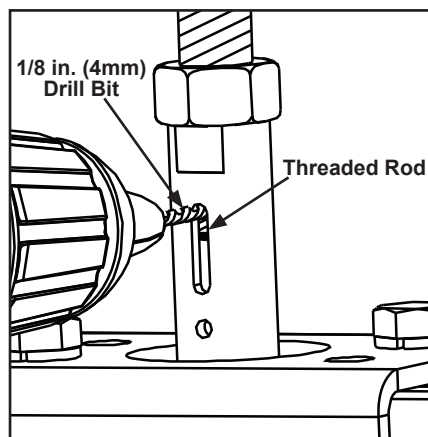
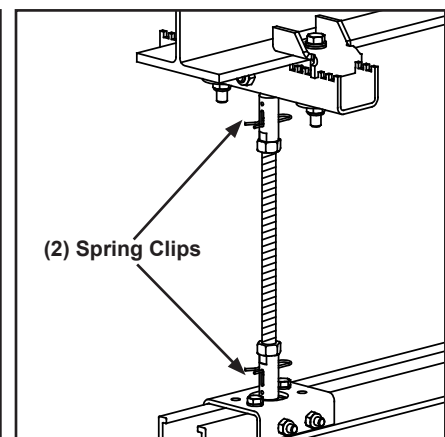

Figure 3-68
Figure 3-69
- Step 6. Drill into threaded rod through each thread slot with a 1/8 in (4 mm) drill bit and insert spring clips. See Figure 3-68 and Figure 3-69.